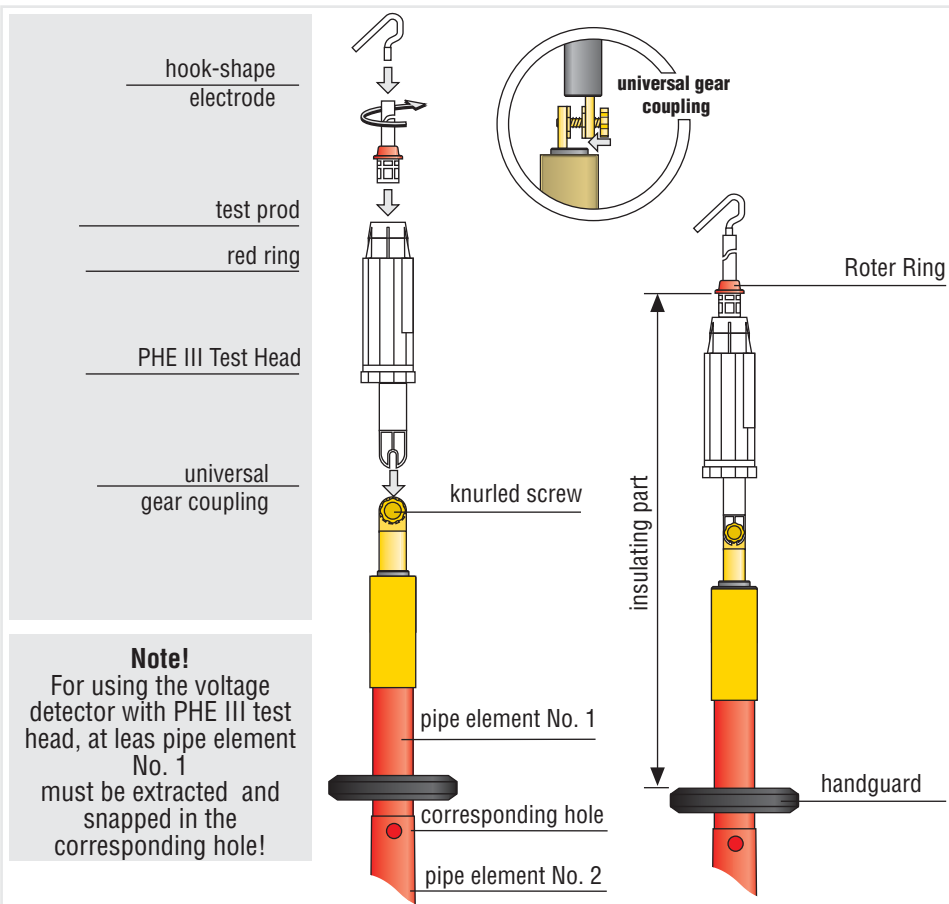

Fig. 3.1 Insulating rod for use with PHE III Test Head
- 3.1.1 For testing in overhead line networks, the insulating rod may be used only in combination with PHE III Test Head. For this purpose, PHE III Test Head must be used with the test prod type "L" as well as with the hook-shape electrode (Part No. 766 923) (see Fig. 3.1, page 29).
The PHE III Test Head is plugged onto the top end of the insulating rod by means of the universal gear coupling, and tightened with the knurled screw (see Fig. 3.1, page 29).